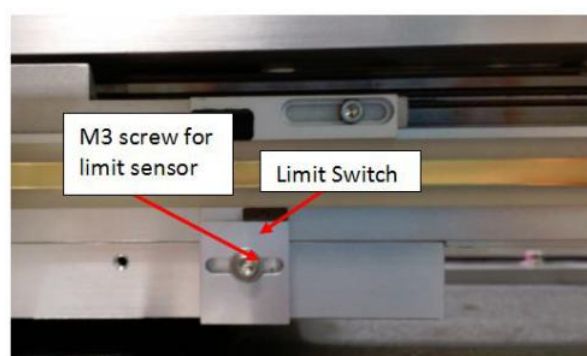

Figure 18 Limit Sensor for X-Axis
28. Loosen the M3 screw of the limit switch as shown in Figure 18.
29. Adjust the limit switch shown in Figure 18 until the Home Sensor status become “High” at the Motor Summary as shown in Figure 19 and Figure 20.
30. Once the limit switch condition is acquired, tighten back the M3 screw for the limit sensor screw as shown in Figure 18.